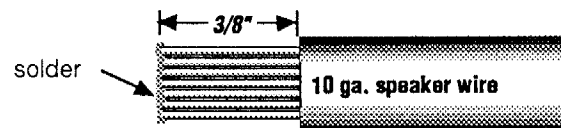

Figure 2
5. After stripping the wires approximately 3/8" of an inch "tin" the very tip of each of the wires (see Fig.2). **This is VERY IMPORTANT!** If you "tin" the entire wire, it is possible to have a poor connection. This connection will result in high resistance; causing excessive heat which could **MELT** the connector and void the "limited" warranty.